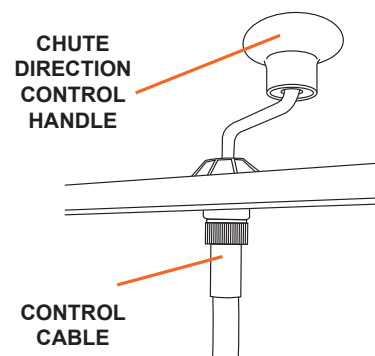

Figure 6
1. Attach the chute direction control cable to the chute direction handle by threading onto the receptacle underneath the control panel (see Figure 6).